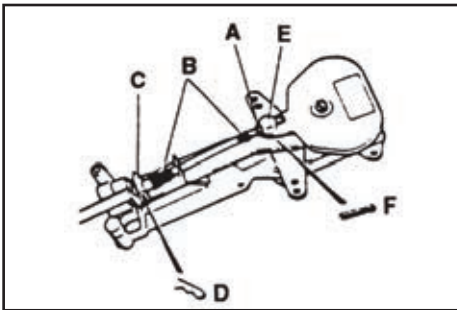
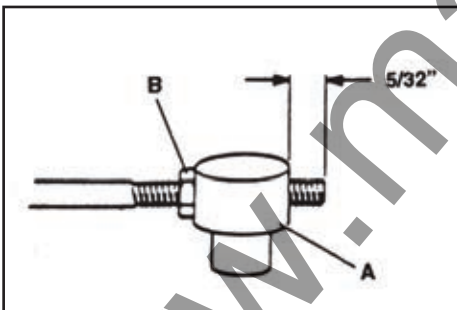

Figure 2.
Figure 3.
**STEP 1.** Remove the nut (Figure 2 item A) and both rubber seals (Figure 2 item B). Push the throttle cable through the retainer (Figure 2 item C). Apply a light, even coating of a good waterproof marine grease to the terminal. Refit both rubber seals and nut.
**STEP 2.** Secure the cable with the hitch pin (Figure 2 item D). Note that the hitch pin must be fitted with the flat side upwards.
**STEP 3.** Thread the pivot (Figure 3, item A) onto the cable terminal until the threaded portion of the terminal protrudes 5/32" (5 threads). Secure the pivot by tightening the nut (Figure 3, item B). Connect the pivot to the throttle lever (Figure 2 item E) and secure it with a cotter pin (Figure 2 item F).
**STEP 2.** Thread the pivot (Figure 3, item A) onto the cable terminal until the threaded portion of the terminal protrudes 5/32" (5 threads). Secure the pivot by tightening the nut (Figure 3, item B).
\* See Figure 3, item A.